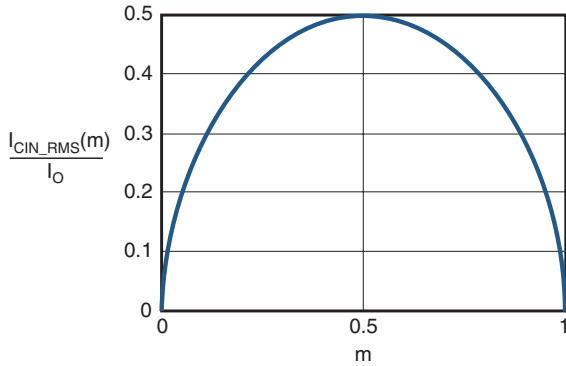

Figure 2. I_{CIN} vs. Voltage Conversion Ratio
The relationship between the input capacitor RMS current and voltage conversion ratio is calculated and shown in Figure 2 on the next page. It can be seen that when V_O is half of V_{IN} , C_{IN} is under the worst current stress. The worst current stress on C_{IN} is $0.5 \times I_O$.
3. Adding a resistor R_G between LDRV and the base of the transistor (gate of MOSFET), which can structure a RC filter with the capacitor of Base-Emitter to reduce the noise (Figure 2). As the increasing of R_G value, the noise getting smaller. Considering the power dissipation of the R_G, its value is often between 10Ω and 100Ω.